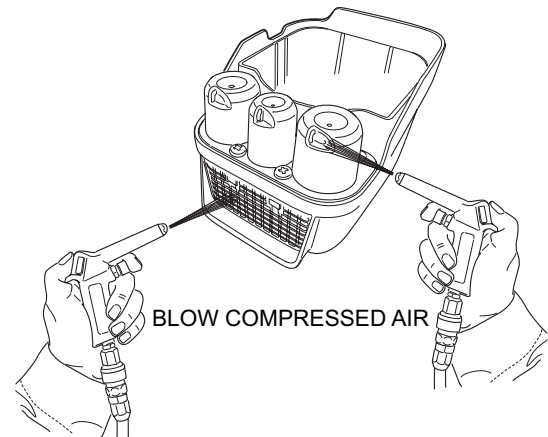

Figure 23. Engine Air Filter Cover
2. Blow compressed air through the air cleaner cover as shown in Figure 23. Clean inside of air filter cover with warm, soapy water or nonflammable solvent. Rinse and dry thoroughly.